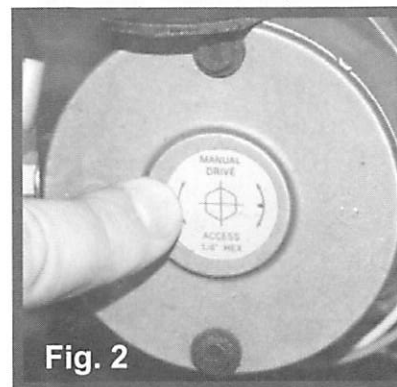

Fig. 2
1. Remove protective label. (See Fig. 2).